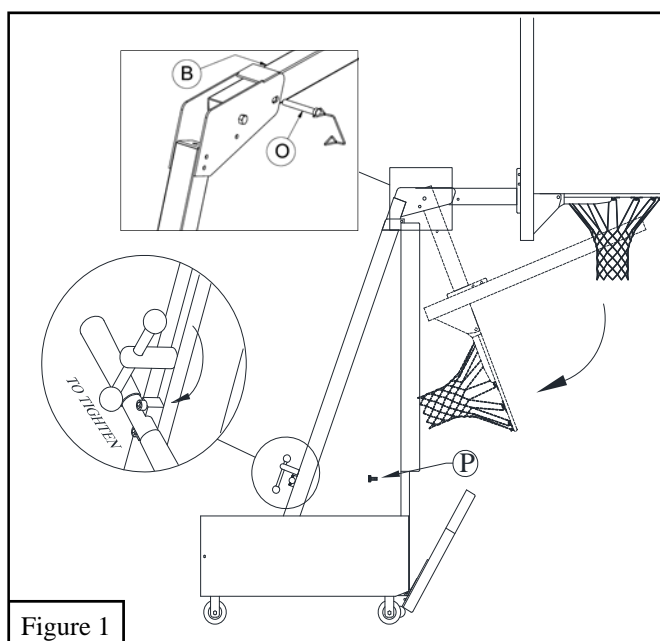

Figure 1
1. This basketball system is shipped partially preassembled. After removing the system from its shipping skid open the lower padded front of the unit by removing the *Lock Knob* (P) and pulling forward on the top of the lower pad. Remove the unassembled parts and hardware. See Figure 1.
4. Rotate the *Extension Arm Assembly* (B) to the playing position. See Figure 1
Knob (P) . See Figure 1
14. For storage or transport through a normal 78" tall double doorway: remove the *Locking Pin (O)* then pivot the extension arm, backboard and goal downwards. Store the *Locking Pin (O)* in the extension arm. See Figure 1.
15. To roll the system, unscrew the *Lock Knob (P)* to release the lower front padding. This will lower the unit to the portable position. To lock in place push padding to the original position and tighten the *Lock Knob (P)* . See Figure 1.